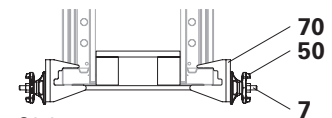

Fig. C8.04a
- Top Tie Holder-2 AH (70) with Tie Rod DW15 (7) and Wingnut Pivot Plate DW15 ga (50). (Fig. C8.04a)